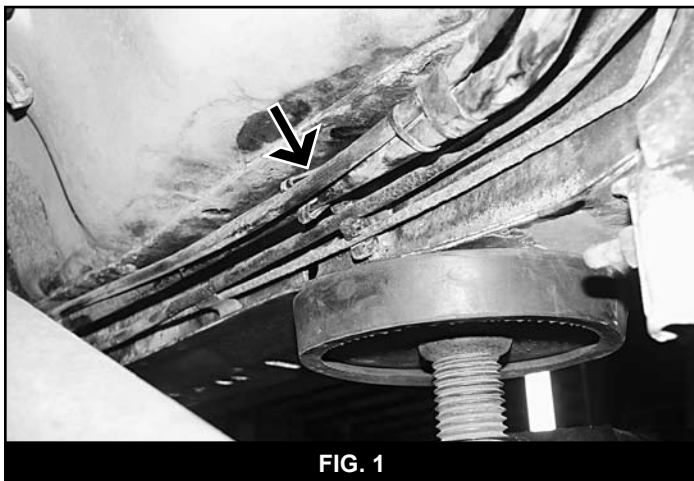

FIG. 1
5. Locate the plastic retaining clip on the inside of the driver's side uni-body frame rail (Fig 1). This clip will be holding 4 lines/hoses. Remove the lines/hoses from the clip and remove the clip from the body.